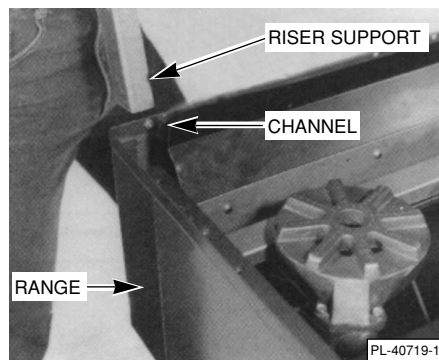

Fig. 2
3. Carefully lift the back riser over the range, guiding the riser supports (or bayonets) into the channels provided at the rear of the range (Fig. 2). Depending on range width, there may be two or three riser supports.
1. Mount back riser onto Gas Restaurant Range so riser supports slide into the channels on the back of the range (similar to Heavy Duty Range, Fig. 2). Attach screws to channels on rear of range. Mounting brackets for cheesemelter and support beam are assembled onto the back riser at the factory. Remove the two mounting bolts from top of support brackets on back riser.